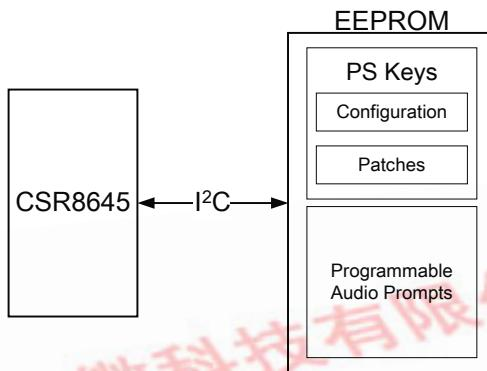

Figure 17.2: Programmable Audio Prompts in External I²C EEPROM
- An external EEPROM, in this implementation the prompts are stored in the same EEPROM as the PS Keys, see Figure 17.2. A larger EEPROM is necessary for programmable audio prompts. This implementation supports EEPROMs up to 512Mb. An EEPROM of 512Mb enables approximately 15 seconds of audio storage.